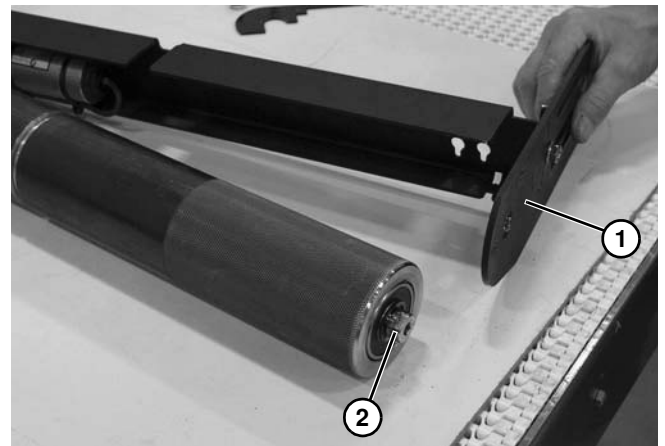

Figure 146
7. Remove cover plate (**Figure 146, item 1**) from pulley shaft (**Figure 146, item 2**).